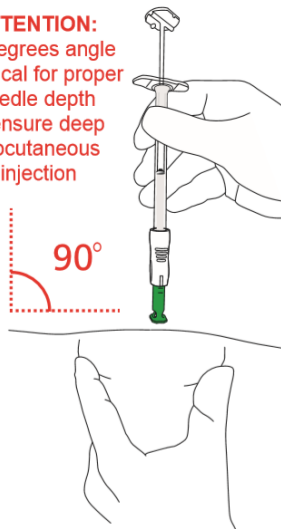

Figure 16
- Position the syringe assembly at a **90-degree** angle to the skin. The green collar at the bottom of the green shield should be perpendicular to the injection site (**Figures 16 and 17**)